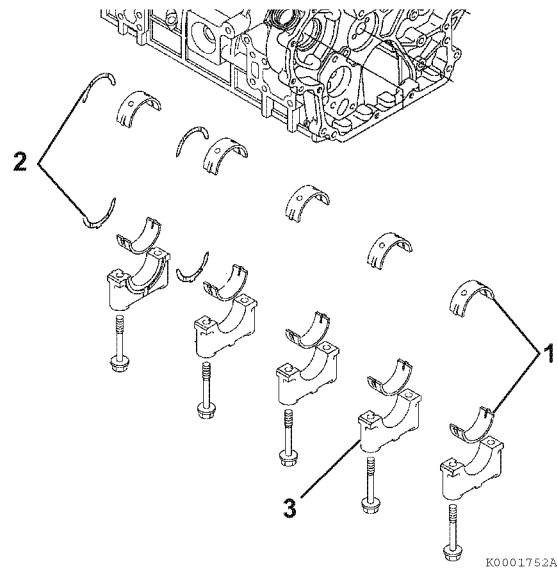

Figure 6-138
2. Reinstall new bearing inserts (1, **Figure 6-138**) and thrust bearing (2, **Figure 6-138**) in the cylinder block and main bearing caps. Apply a liberal coat of clean engine oil to the bearings and crankshaft journals.
4. Reinstall the main bearing caps (3, **Figure 6-138**).